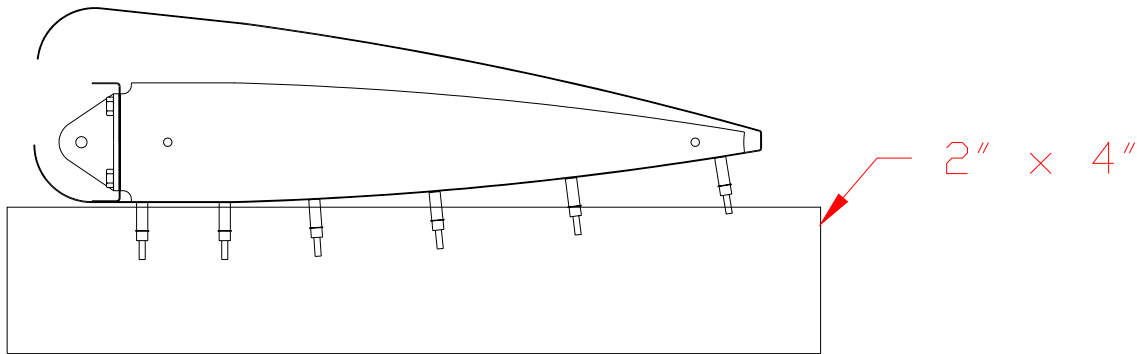

Figure 4.2.1
1) Position two 2 x 4s on a level work surface approx. 40" apart. Figure 4.2.1.